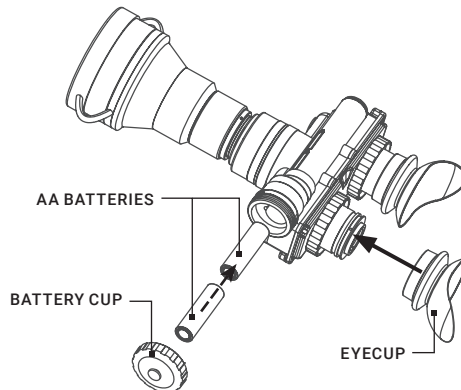

FIGURE 2-1. BATTERY AND EYE CAP INSTALLATION
3. Following the polarity markings on the outside of the battery compartment, insert two AA (1.5V) batteries into the battery compartment, positive (+) end first (see Figure 2-1).
To install the eyecups (refer to Figure 2-1):